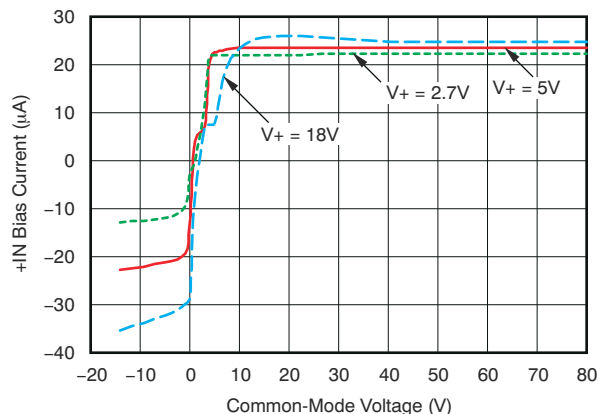

图 6-7. INA283-Q1 +IN BIAS Current vs Common-Mode Voltage
- (1) RTI = referred-to-input.
- (2) See typical characteristic graph 图 6-7.
- (3) The average of the voltage on pins REF1 and REF2 must be between V_{GND} and the lesser of $(V_{GND} + 9\text{ V})$ and V_+ .